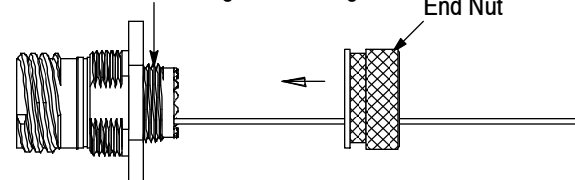

Figure 9
2. Insert the ferrule assembly into the channel cavity of the EB insert until it bottoms. To avoid damage to the fiber, DO NOT push the fiber to install the ferrule assembly. See Figure 9, Detail A.
3. Slide the spring over the ferrule assembly and into the channel cavity (the spring will protrude slightly from the cavity). See Figure 9, Detail A.
4. Align the index pin hole of the ferrule plate with the index pin at the back of the EB insert, and slip the fiber into the closest slotted hole in the ferrule plate. See Figure 9, Detail B.
5. Hold the ferrule plate against the EB insert, making sure that the index pin enters the index hole. Thread the screw through the screw hole in the ferrule plate and into the hole in the EB insert. See Figure 9, Detail C. Using the 2-mm hex wrench and torque wrench or torque stand, tighten the screw to a torque between 0.8 and 1 Nm. Check to make sure that the ferrule plate is flush with the EB insert.
6. Using an applicator swab, apply a *thin film* of the grease around the O-ring of the EB insert. Refer to Figure 9, Detail D.
7. Mount the housing onto the keyed adapter tool or bench-mount fixture. Align the internal key (small bar inside) of the housing with the keyway (slot along the side) of the EB insert, and slide the EB insert partially into the housing. See Figure 9, Detail E.
9. Slide the wave spring and spacer ring into the housing. See Figure 9, Detail F.
10. Apply several drops of the threadlocker to the threads at the back of the flange of the housing. See Figure 9, Detail G.